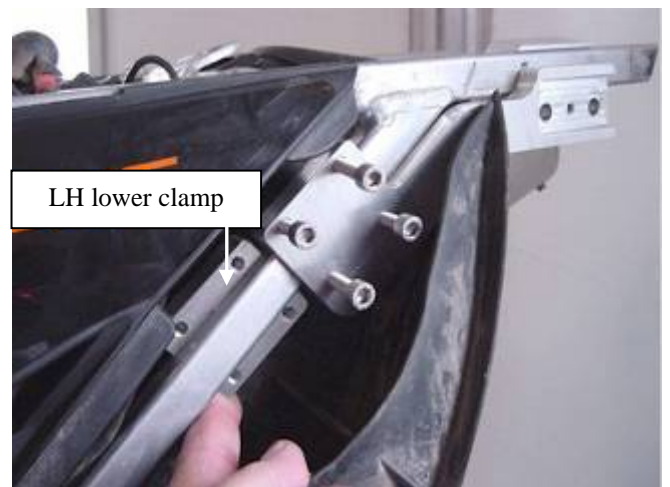

Figure 4: Install of LH lower clamp
6. Install the Left Hand lower bracket clamp onto the back of the lower subframe tube. Installation is easiest by placing the lower clamp below the bracket and sliding it up into place. Make sure that you orient the clamp so that the subframe tube passes through it on the correct angle (**Figure 4**), the deep end of the groove must be toward the top. Install and tighten four 6x25mm socket head bolts.